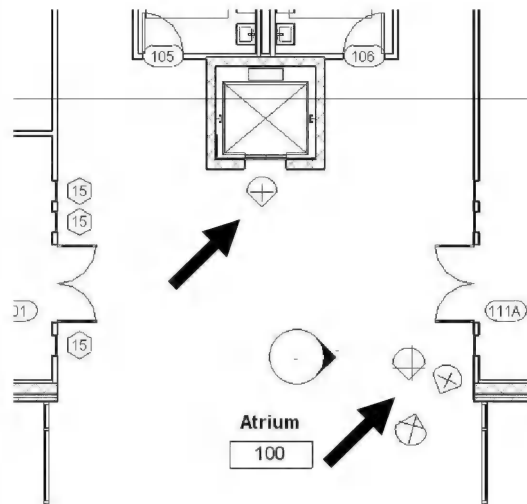

FIGURE 13-5.3 Level 1 – people added
8. Place a few of the other people available (similar to Fig. 13-5.3).